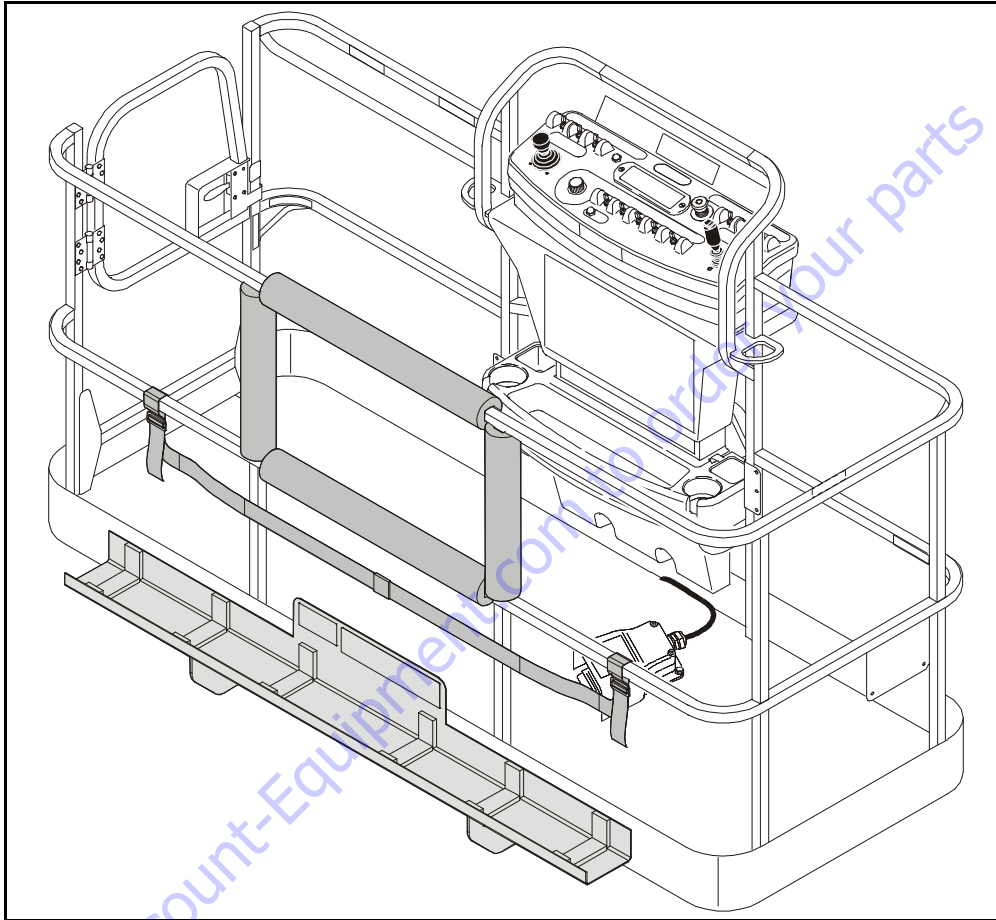

Figure 4-37. SkyGlazier™
11. Install bumper and strap kit as shown in Figure 4-37., SkyGlazier™.